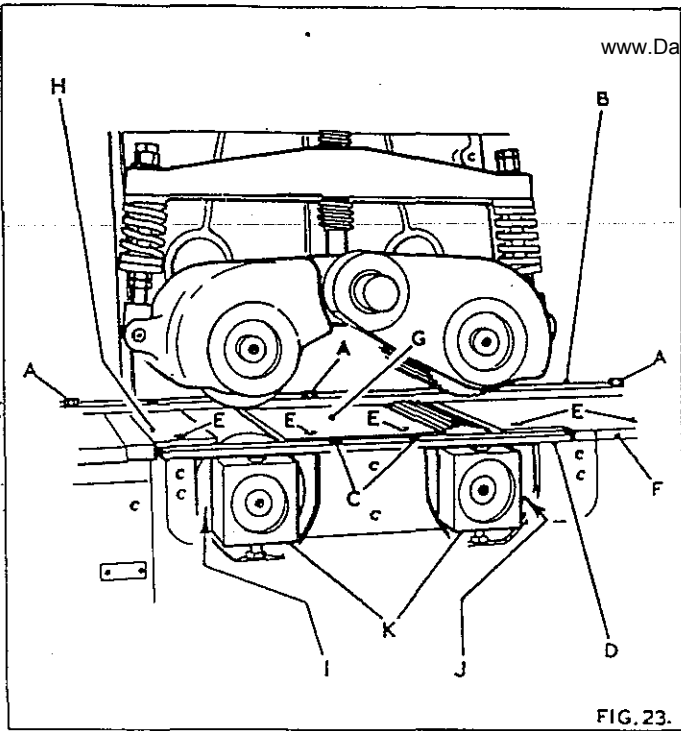

FIG. 23.
8. Proceed with bottom rollers by loosening hexagon head bolts "A" in Fig. 23 and removing infeed fence "B". Loosen socket head capscrews "C" and remove feed roller retaining bar "D" taking care not to lose two tension springs.